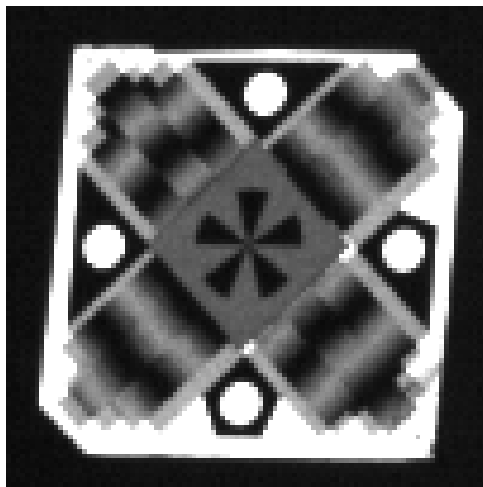

Figure 1: Images of a 65mm MPT marker and Camera-Lighting Unit (CLU).
1. One or more moiré phase tracking markers (figure 1)
2. A camera-lighting unit, or CLU (also in figure 1)